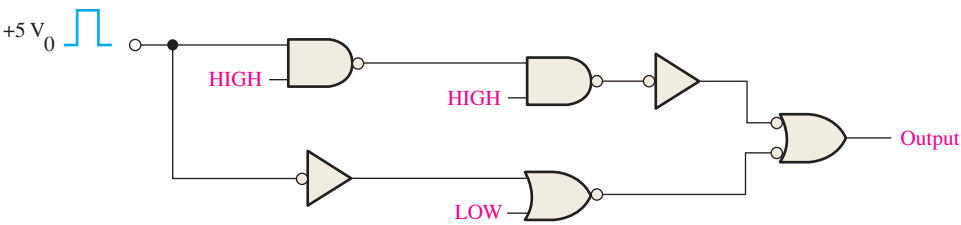

FIGURE 15-50
7. Each gate in the circuit of Figure 15-50 has a t_{PLH} and a t_{PHL} of 4 ns. If a positive-going pulse is applied to the input as indicated, how long will it take the output pulse to appear?